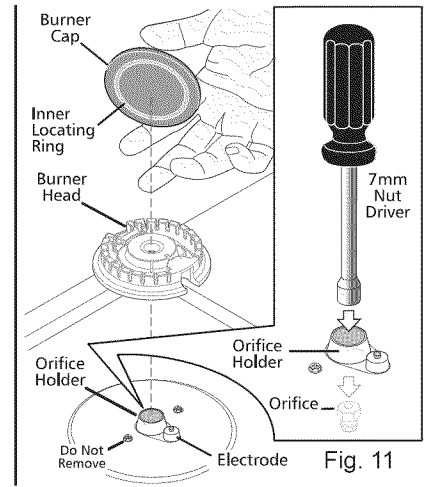

Fig. 11
- Remove the factory installed natural gas orifices one at a time from the center of the orifice holder using a 7 mm nutdriver (See Fig. 11). Remember to keep the original Natural Gas Orifices for later conversion to Natural Gas.